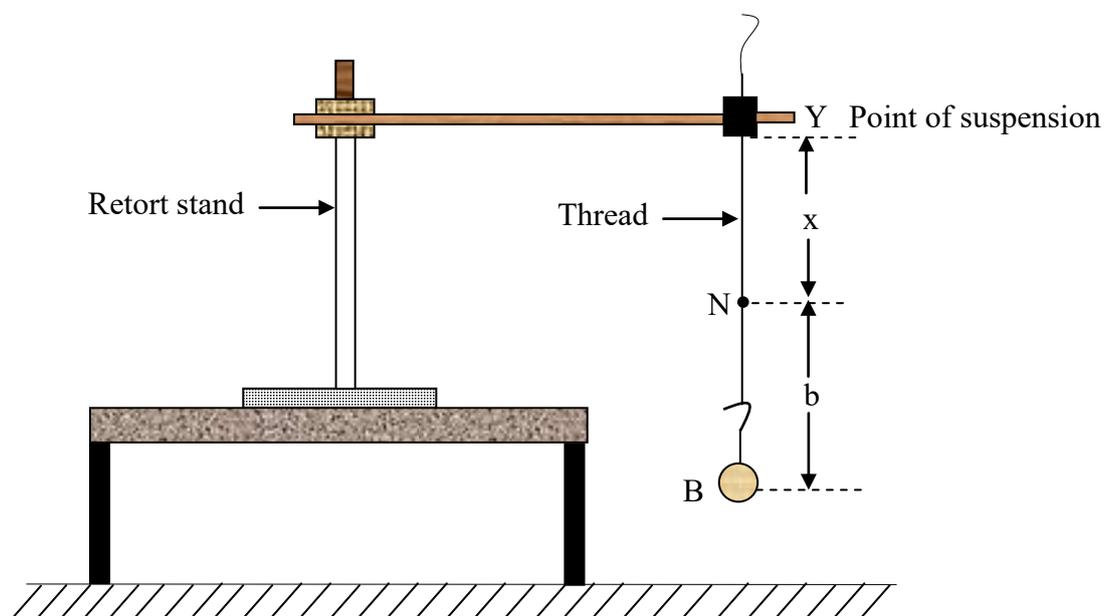

Figure 21
- (a) Tie a thread to the given pendulum bob as shown in Figure 21. Make a knot of 10 cm from the bob.